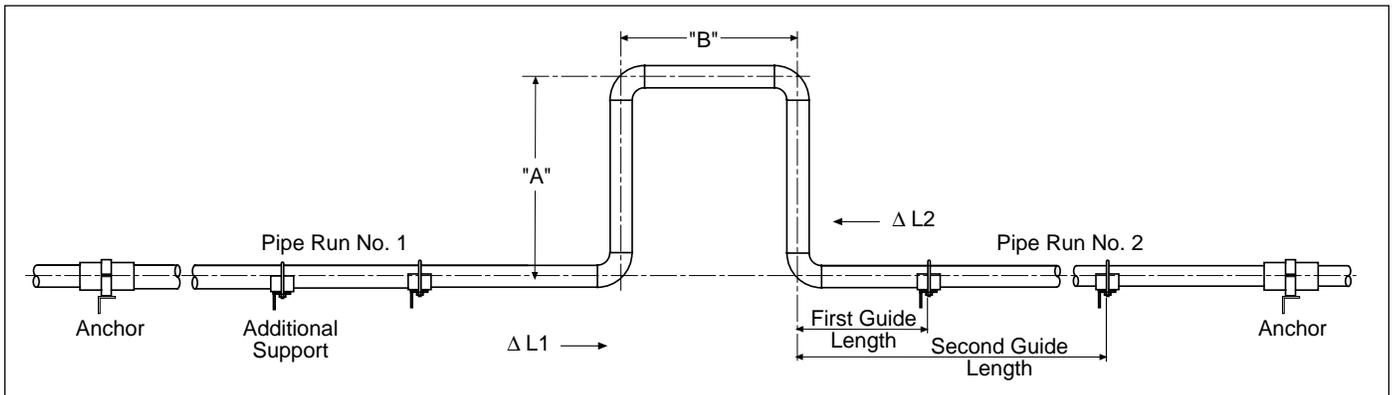

Figure 12 – Loop Leg Sizing Diagram
1. Lay out line so that loop is located between two pipe anchors as shown in Figure 12.